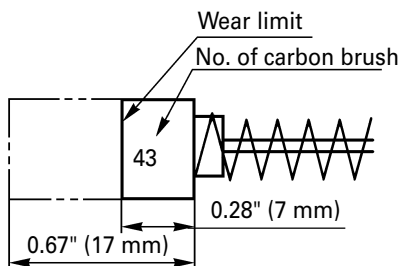

Fig. 16
4. Inspecting the carbon brushes: (Fig. 16)
Use HITACHI carbon brush No. 43 indicated in Fig. 16